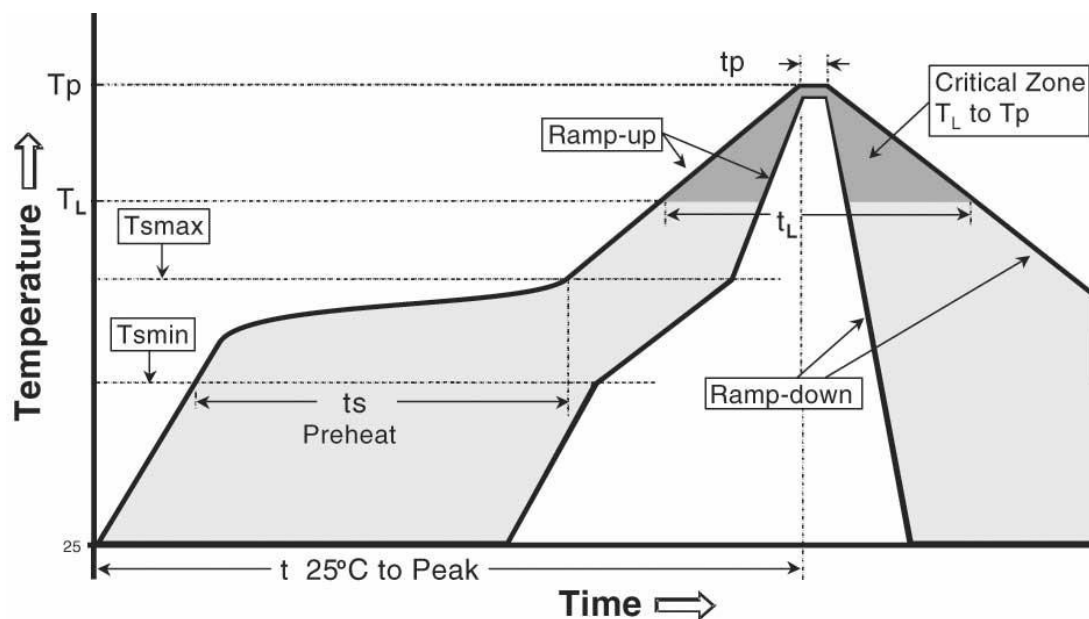

Figure 9 – Temperature profile.
2. Perform a reflow process according to the temperature profile detailed in Figure 9.